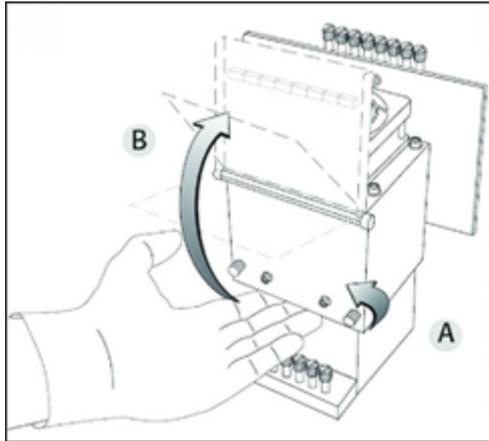

Figure 6-72 Opening the print-head compartment
- a. Open the print head compartment (see Figure 6-72 on page 6-53).